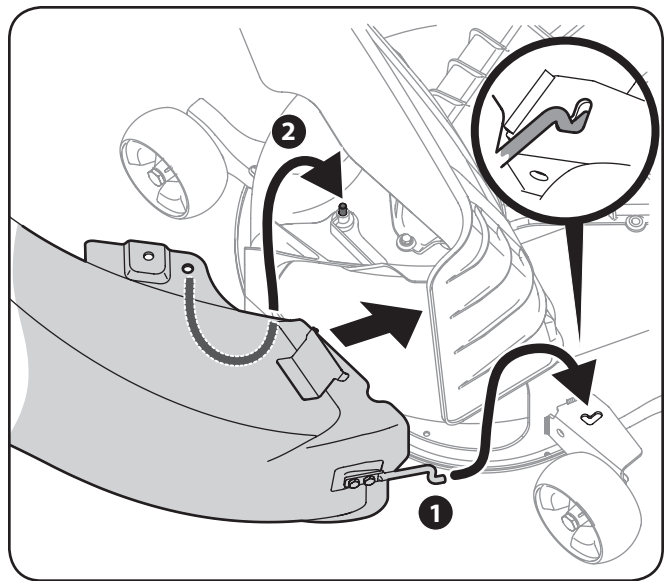

Figure 4-22
- Insert the end of the discharge chute elbow (1) into the hole provided in the deck wheel mount as shown in the inset of Figure 4-22.
- Pivot the discharge chute rearward until the hole in the discharge chute elbow aligns with the pin on the deck adapter. Move the discharge elbow down onto that pin as shown in 2 of Figure 4-22.